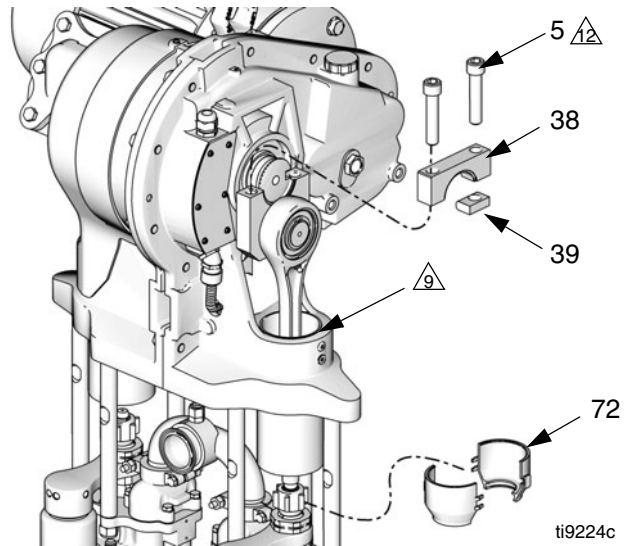

FIG. 5. Install Crank Arm Cap
2. Slide the piston (9) and connecting rod (7) into the cylinder (2).
3. Position the crank arm (4) to engage the output shaft (OS), and rotate it to the bottom of the output shaft.
4. Place a clean rag over the top of the slider cylinder (2) to prevent debris from falling into the slider assembly during reassembly.
5. See FIG. 5. Apply antiseize lubricant (LPS[®]-04110 or equivalent) to the threads of the cap screws (5). Install the key (39), crank arm cap (38), and cap screws (5), oriented as shown. While the gap-side screw is still loose, torque the key-side screw to 210-230 ft-lb (283-310 N•m). Then torque the gap-side screw to 210-230 ft-lb (283-310 N•m). Torque screws an additional 2-3 times each, or until they stop turning when torqued to 210-230 ft-lb (283-310 N•m).
6. Ensure that the collars (13) are in place in the coupling nut (14).
7. Place a 3/4 in. wrench on the flats of the slider piston (9), to keep it from turning when you are tightening the coupling nut (14). Orient the wrench so it is braced against one of the tie rods (3) or the pump stand. Tighten the coupling nut (14) onto the slider piston (9) and torque to 75-80 ft-lb (102-108 N•m).
8. Install the shields (72) by engaging the bottom lips with the groove in the wet-cup cap. Snap the two shields together.
9. Remove the rag. Reinstall the cover (32 or 21) and screws (12).